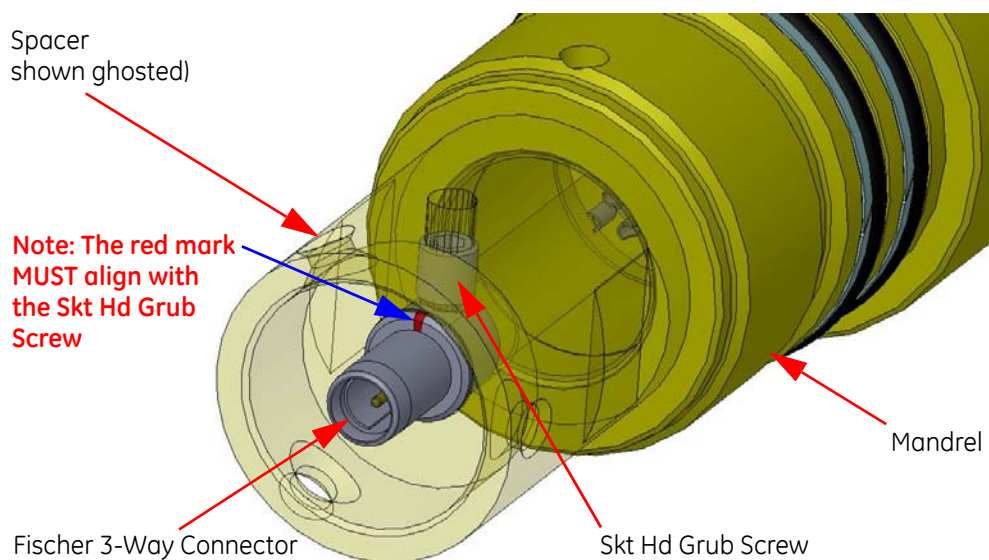
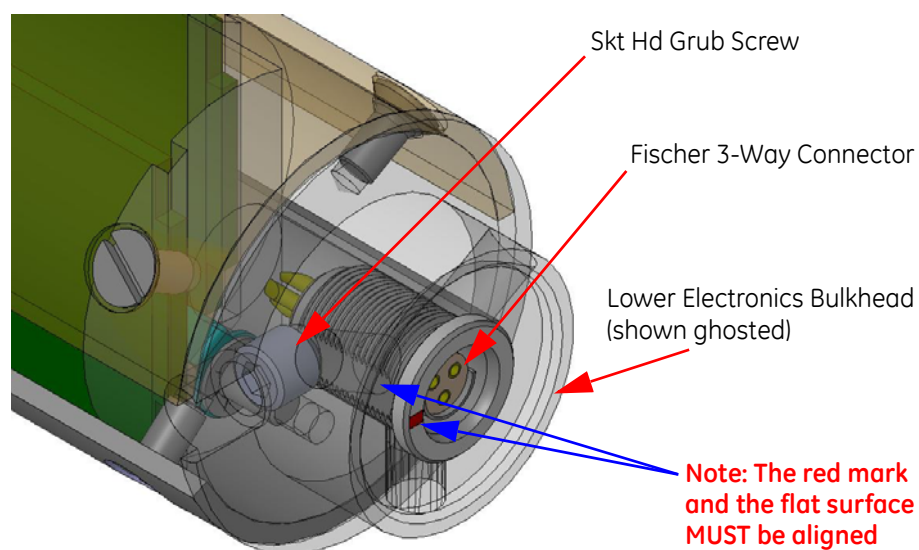

Figure 5-3 Fischer 3-Way Connector secured in the upper end of the Sensor Section
Figure 5-4 Correct installation of the Fischer 3-Way Connector
- 2 With reference to Figure 5-3, **DO NOT** touch the electrical contacts of the Fischer 3-Way Connector (item 15, 416005) in the upper end of the Sensor Section Assembly (item 1). An electric charge can be between Pin 1 and Pin 2.
- 3 With reference to Figure 5-3, make sure the Fischer 3-Way Connector is installed correctly in the Spacer (item 8, 416005) and is secured in position with the Skt Hd Grub Screw (item 20, 416005).
When the three holes are **not** aligned with the three Skt Hd Grub Screws, this indicates one of the Fischer 3-Way Connectors is not installed correctly. Separate the two assemblies and check the two Fischer 3-Way Connectors are installed correctly (refer to Figure 5-3 and to Figure 5-4). **DO NOT attempt to release any Screw and turn one assembly relative to the other assembly!**
- vi Apply a thin film of Liquid-O-Ring® type 101 (P/N: LOR101) to the new O-Ring (item 5, 412220) and to the groove in the Monoconn Female Connector.
- viii Install the Spiral Retaining Ring (item 4, 412220) in the groove in the upper end of the Monoconn Upper Bulkhead to secure in position the Monoconn Female Connector.
- 5 When the Fischer 3-Way Connector (*item 3*) is to be installed, complete these steps:
- i With reference to the wiring diagram (*WD-416324*), put the applicable wires through the Lower Electronics Bulkhead (*item 5, 416324*).
- iii Use a solder iron and *SN100C* solder to connect the wires to the Fischer 3-Way Connector (*item 6, 416324*). Use a suitable PCB cleaner to remove any flux residue from the solder joint.
- vi With reference to *Figure 5-4*, insert the Fischer 3-Way Connector in the Lower Electronics Bulkhead. Make sure the flat surface (red mark) faces the location for the Skt Hd Grub Screw (*item 9*).
- vii Install the Skt Hd Grub Screw (*item 9*) in the Lower Electronics Bulkhead to secure in position the Fischer 3-Way Connector.